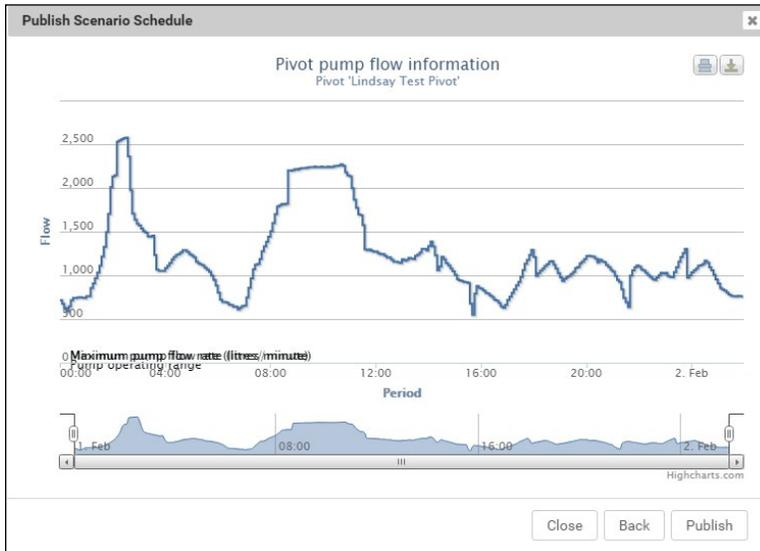

Figure 12-1
4. Check the Pivot pump flow information to verify that the flow rate is within the defined range, and then click **Publish**. Refer to Figure 12-1.